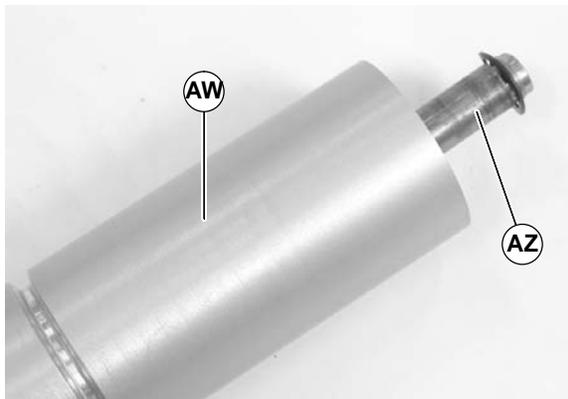

Figure 38
- Slide the shaft assembly (AZ of Figure 38) out of the pulley (AW).